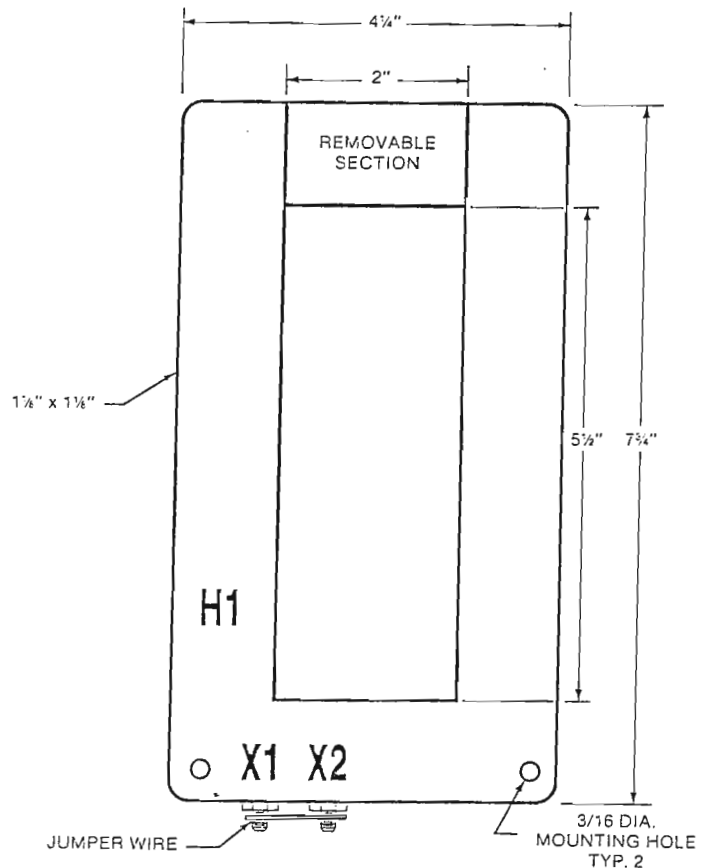

Figure 37. Model CT-2000 Current Transformer
3. Remove the split core and place current transformer around the bus bar or cable so the side of the current transformer marked H1 faces the source of power; see Figure 37.